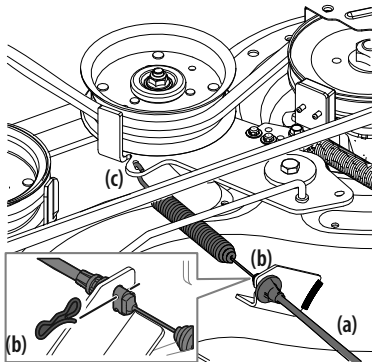

Figure 33
- Carefully remove the PTO cable (a) from the rear of the cutting deck by removing the bow-tie clip (b) which secures it. Remove the spring (c) from the deck idler bracket. See Figure 33.